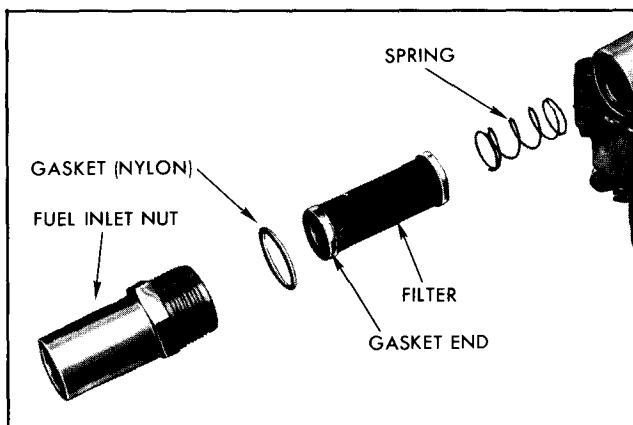

Figure 22—Fuel Filter
1. Remove fuel inlet nut, gasket and filter. See Figure 22.
3. Install fuel inlet filter spring, new gasket and inlet nut (figure 22). Tighten nut (18 ft. lbs.).